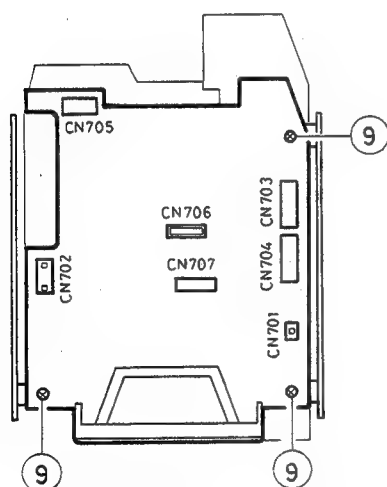

Fig. 7-5
■ LCD display board (VMW1255A) (Fig. 7-5)
1. Remove three screws ⑨ retaining the Microcomputer, LCD display board (VMW1255A) from the both sides of the chassis.